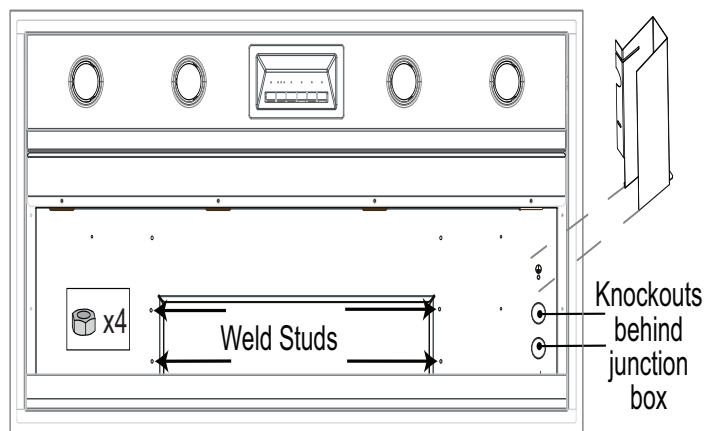
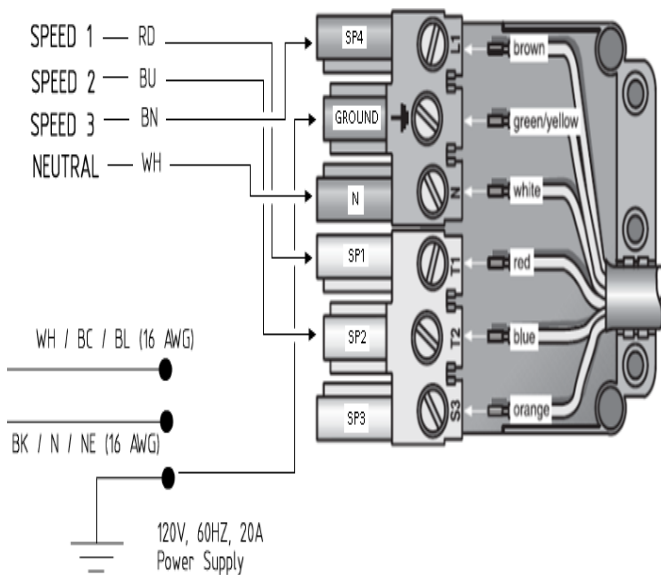

Figure 5: Weld Stud & Junction Box Locations
Figure 11: Wiring the Hood with an Inline Blower
1. The blower is attached to the hood using weld studs provided on the mounting plate. *Figure 5* exhibits the weld stud locations.
3. Attach four (4) nuts (included with hood) to the weld studs. Tighten nuts to secure the blower to the hood.
1. Remove junction box channel covering the wires (see *Figure 5 on page 11*).
2. Remove circular knockouts (*Figure 5 on page 11*).
- Lost or missing wire nuts should only be replaced with spring type wire nuts, rated for a minimum of two (2 #18 gauge wires and maximum of four (4) #14 gauge wires, UL & CSA rated to 600V and 302°F (150°C).
7. Run five (5) wires (#14 AWG) in 1" (25.4 mm) conduit from the inline blower to the second conduit connector.
8. Connect the inline blower to the pigtail wires as per *Figure 11*. Connect the inline blower green (ground) wire to the ground screw in the junction box.
- Remove the junction box cover (refer to *Figure 5 on page 11*).